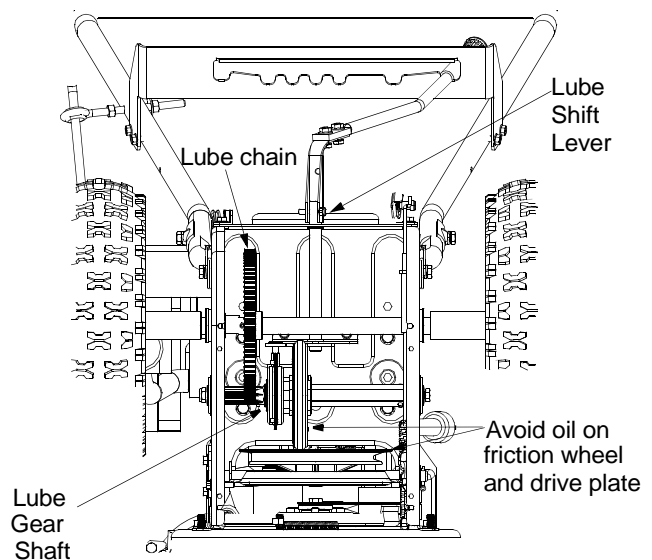

Figure 23
- Remove rear cover. Oil any chains, sprockets, gears, bearings, shafts, and shifting mechanism at least once a season. Use engine oil or a spray lubricant. Avoid getting oil on rubber friction wheel and aluminum drive plate. See Figure 23.